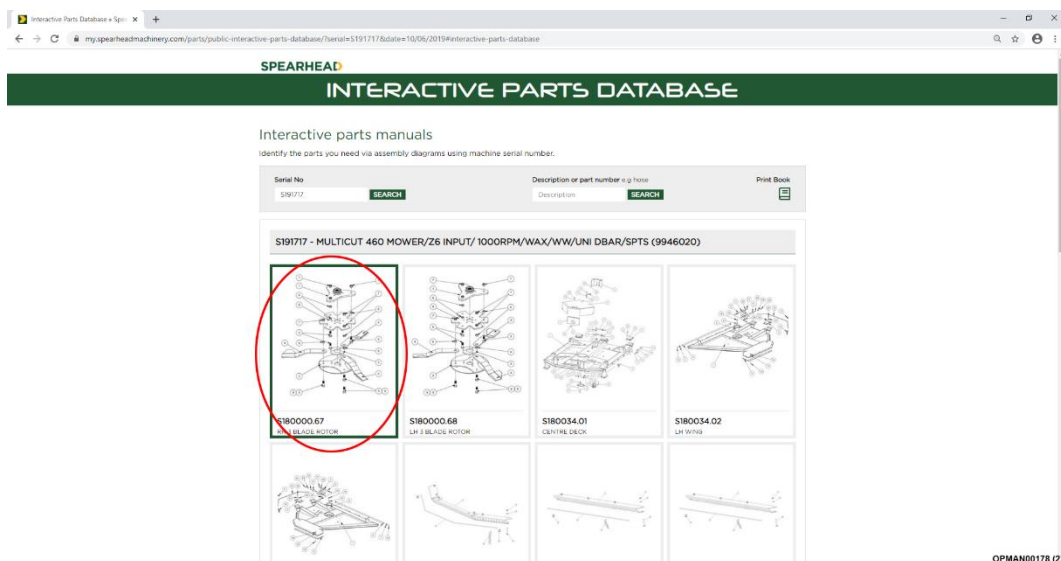

Figure 11.3 – Click On Assembly
11.1.1.3 After clicking on the serial number a full parts breakdown, specific to the machine serial number will appear showing the various parts and assemblies of the machine. Click on the specific assembly picture required; see Figure 11.3.